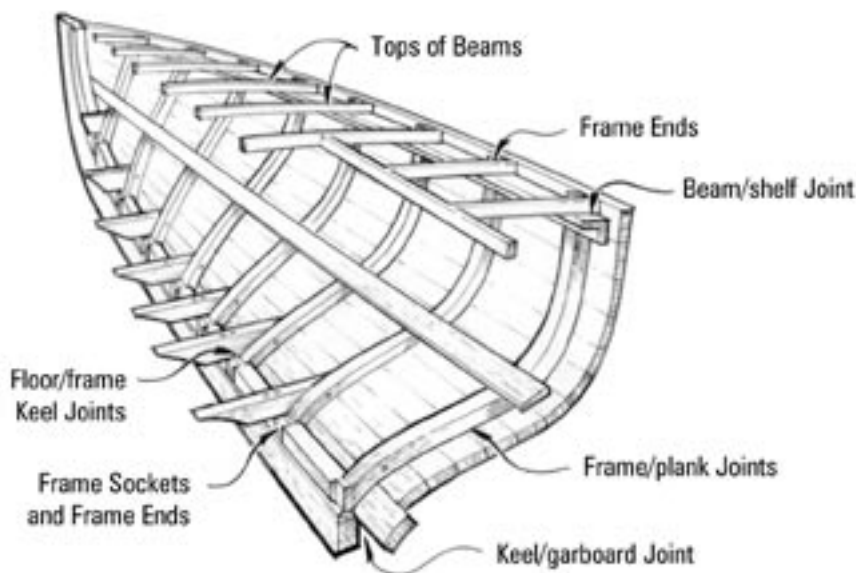

Figure 2-4 Look for dry rot at joints and areas of standing water and poor air circulation.
4. Inspect each structural member and fasteners to assess whether they can still carry their intended load. Use an ice pick or other sharp tool to probe for areas of dry rot. Look for rot in areas of poor air circulation, where parts are in contact with each other and around fasteners. If the damage is from an impact or fatigue, look for cracked frames or loose fasteners away from the damaged area (*Figure 2-4*).